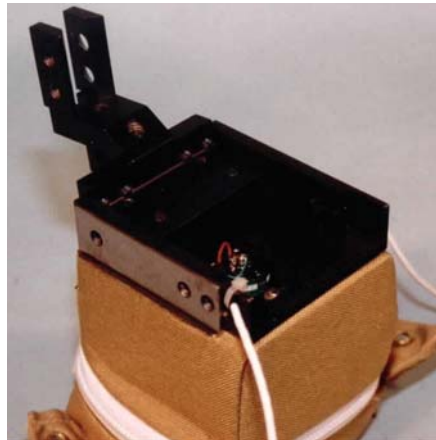

Figure 9.15- Bag attached to mounting bracket
19. Pass the instrument wire from the string potentiometer through the ½" diameter hole in the lower left side of the Spine Mounting Bracket Assembly (T1UAM100). Position the bag assembly into place over the Spine Mounting Bracket Assembly as shown in **Figure 9.15**. Secure the string potentiometer wire to the spine mounting bracket using a zip-tie.